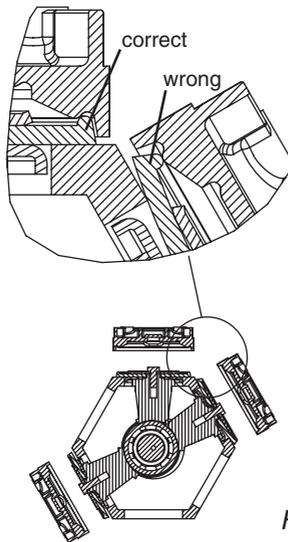

Fig. 29
IMPORTANT: Before tightening the 4 bolts for the diaphragm cover (A) (Fig. 28), the diaphragm must be positioned between center and top stroke to ensure correct sealing of diaphragm between pump housing and diaphragm cover (Fig. 29). Turn crank shaft if necessary.
Note: When tightening the diaphragm cover, the diaphragm must be correctly positioned to avoid permanent damage to the diaphragm. If the diaphragm is in the "bottom" portion of it's stroke, the edge of the diaphragm will not seat correctly (Fig. 29). This will permanently damage the diaphragm so that it will not seal correctly even if removed and correctly re-assembled. Rotate the crank shaft until the diaphragm is between the "center" and "top" portion of it's stroke.